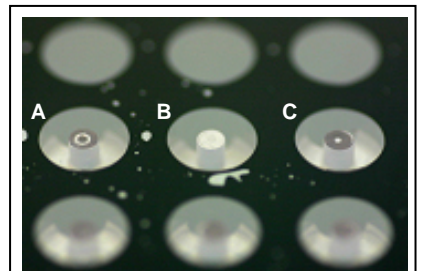

Figure 3. Stoppers that are:
7. Visually inspect the underside of the populated 96-well plate to ensure that the Oris™ Cell Seeding Stoppers are firmly sealed against the bottom of the plate. To inspect the stoppers, turn the plate over and examine the stoppers for sealing (see Figure 3). If incomplete sealing is observed, return the plate to the upright position and use a sterile instrument to gently push the stopper back into the well until sealing is observed.